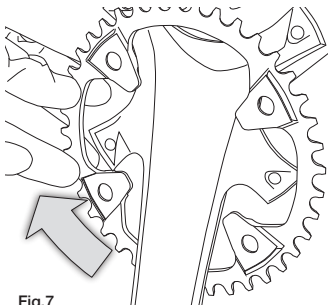

Fig.7
- Turn the chainring to be able to remove it from the crankset, being careful not to scrape the crankset (Fig. 7).